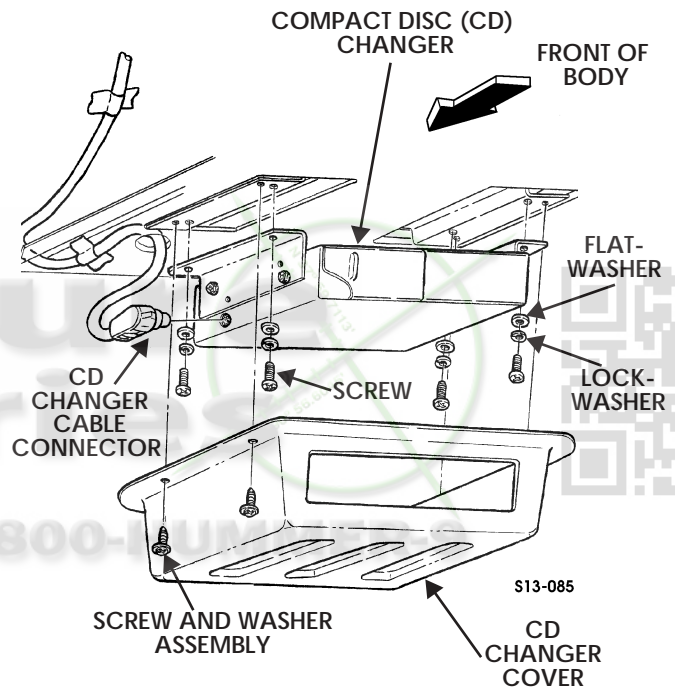

Figure 13-116: CD Changer
**COMPACT DISC (CD) CHANGER REPLACEMENT**
1. Remove the four screw and washer assemblies securing the compact disc (CD) changer cover to the roof (Figure 13-116).
1. Secure CD changer to roof with four flatwashers, lockwashers, and screws (Figure 13-116).